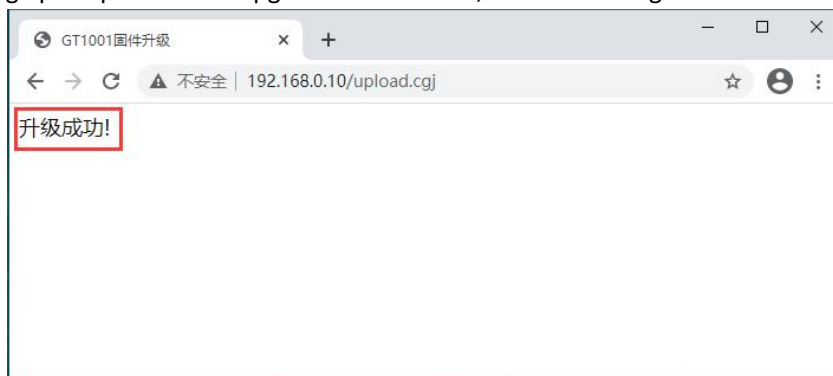

Figure 6-4 Prompt interface for successful upgrade
(4) Click the "Select File" button to point the path to the firmware to be upgraded (scan if the latest firmware is not available QR Code Acquisition).
(5) Click the "Upgrade" button to start the firmware upgrade. During the upgrade process, RX\_ LED flashes and the upgrade is completed. Then enter the application mode, and the webpage prompts that the upgrade is successful, as shown in Figure 6-4.